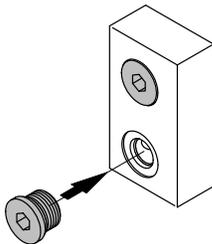

Fig. 5-9
3. Close the hose connections with Nordson port plugs (Fig. 5-9).